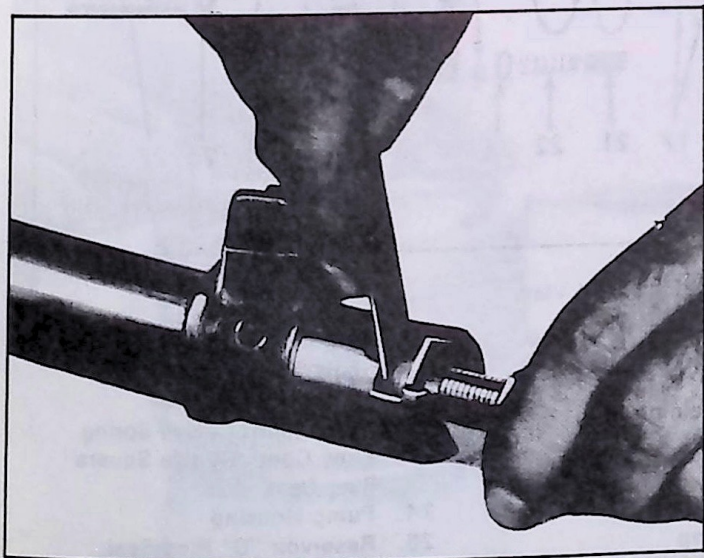

Fig. 16-Checking Lash Adjuster End Clearance
5. Position the lash adjuster (with shim) in the slotted end of the pitman shaft. Check the end clearance, which should not be greater than .002" (fig. 16). If clearance is greater than .002", a steering gear lash adjuster shim unit is available. It contains four shims—.063", .065", .067" and .069" thick.